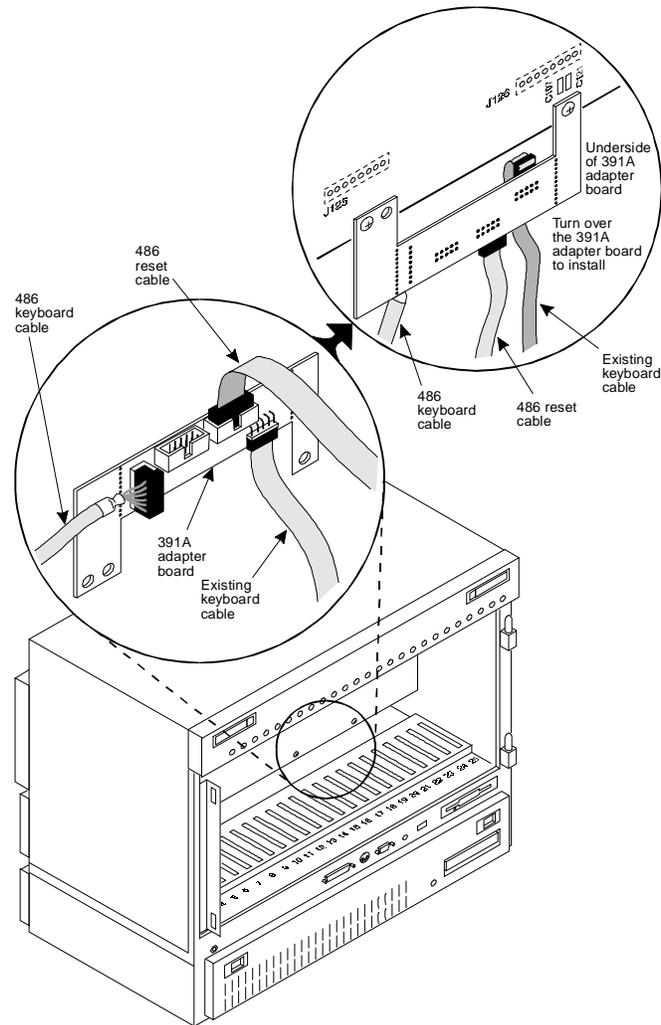

Figure 8-26. CPU/Remote Maintenance Circuit Card Keyboard Adapter Installed in the MAP/100C
1. Locate the CPU/Remote Maintenance circuit card keyboard adapter (391A adapter) in the MAP/100C. Ensure that the keyboard/reset and the Remote Maintenance circuit card reset cables are dressed through the portal into the card cage (Figure 8-26).